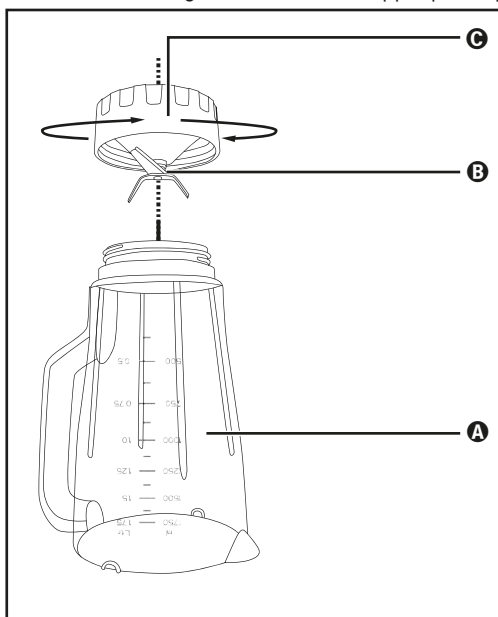

Fig. 3
- 2) Turn the appliance upside down and turn the lower plastic part Ⓒ of the blender ③ anticlockwise so that it can be removed from the upper plastic part Ⓐ of the blender ③ (see fig. 3).